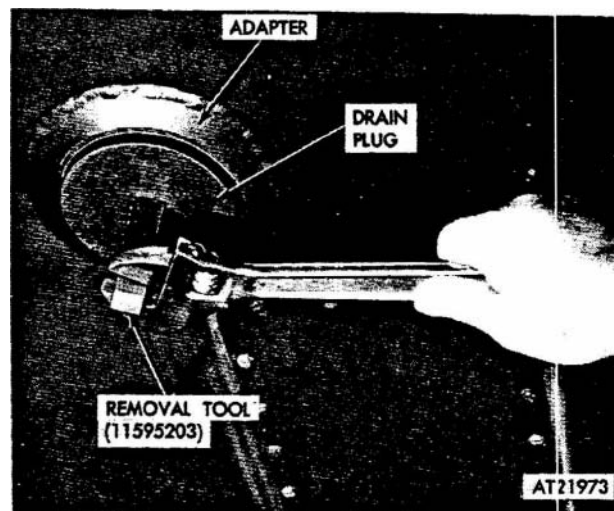

Figure 2-321. Drain plugs, removal and installation.
(1) Remove drain plug from adapter in vehicle hull, using removal tool (11595203) (fig 2-321).
(2) Remove screw securing chain assembly to drain plug. Remove drain plug.
(1) Position chain assembly to drain plug and secure with screw (fig 2-321).
(2) Coat threads of drain plug with anti-seize compound (FSN 8030-753-4953). Install plug into hull adapter, using installation tool (11595203).